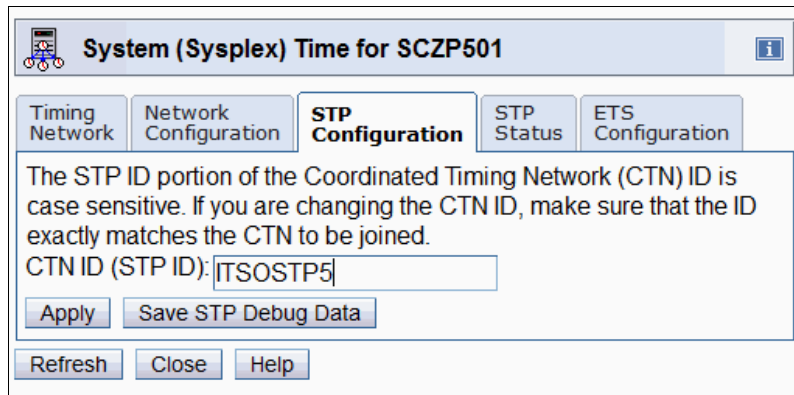

Figure 9-34 System (Sysplex) Time: STP Configuration
1. Click the **STP Configuration** tab (Figure 9-34). Enter the CTN ID. In this example, we define ITS0STP5 for the CTNID. Click **Apply**.